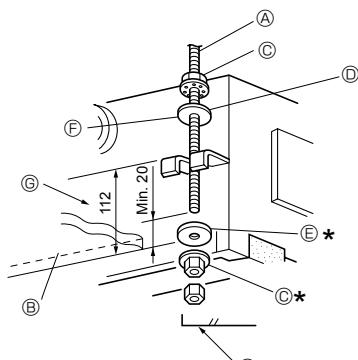

Fig. 2-7
1. Thread washers ① ② (supplied) and their nuts (procured locally) onto the suspension bolt in advance. (Fig. 2-7)
- * Do this in the following order (from the top): nut, insulated washer ②, washer without insulation ①, 2 nuts.
- * Position insulated washer ② with the insulated surface pointing down, as in the figure.
2. Lift the unit into place, aligned properly with the suspension bolt. Pass the bracket between washers ① and ②, which are already in place, and secure it. Do the same in all four places.